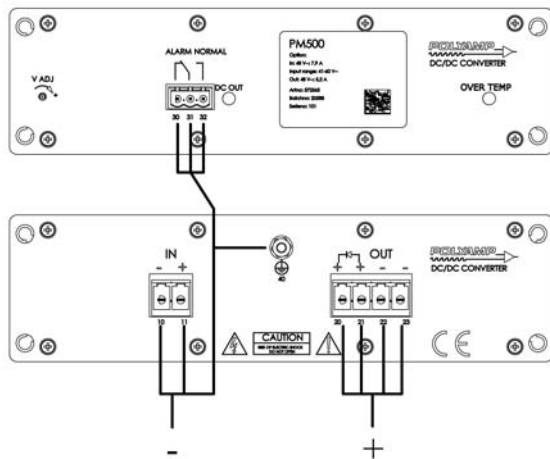

Figure 6. Output to case isolation voltage test.
4. Connect your isolation tester between output and case. See *Figure 6*.